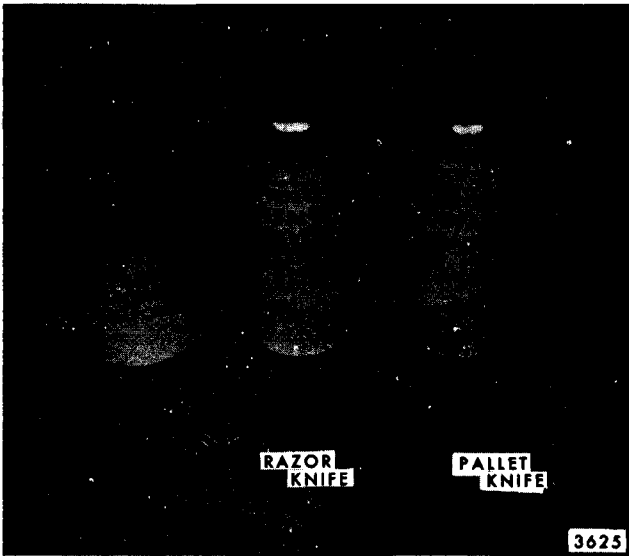

Fig. 11-15-Fabric Roof Cover Repair Materials and Tools
2. Pallet knife - A small trowel used for applying vinyl repair patching compound (Fig. 11-15).
3. Razor or sharp knife - To be used for removing frayed edges from damaged area prior to application of vinyl patching compound (Fig. 11-15).
5. Vinyl cleaner (solvent type) - For removal of wax, silicone, oil, etc. from repair area prior to paint application (Fig. 11-15).
6. Vinyl repair patching compound - A heat curing milky colored heavy bodied plastisol for repairing cut, torn, scuffed or gouged vinyl roof cover material (Fig. 11-15).
3. Vinyl Cleaner (Solvent Type) - for removal of wax, silicone, oil, etc. from repair area (see Fig. 11-15).
4. Vinyl Repair Patching Compound - a heat curing milky colored heavy-bodied plastisol for repairing damaged area (see Fig. 11-15).
5. Vinyl Repair Paint - An approved, durable, water proof, weather resistant, pliable vinyl paint for final color refinishing (see Fig. 11-15).
6. Pallet Knife - a small trowel for applying patching compound to repair area (see Fig. 11-15).